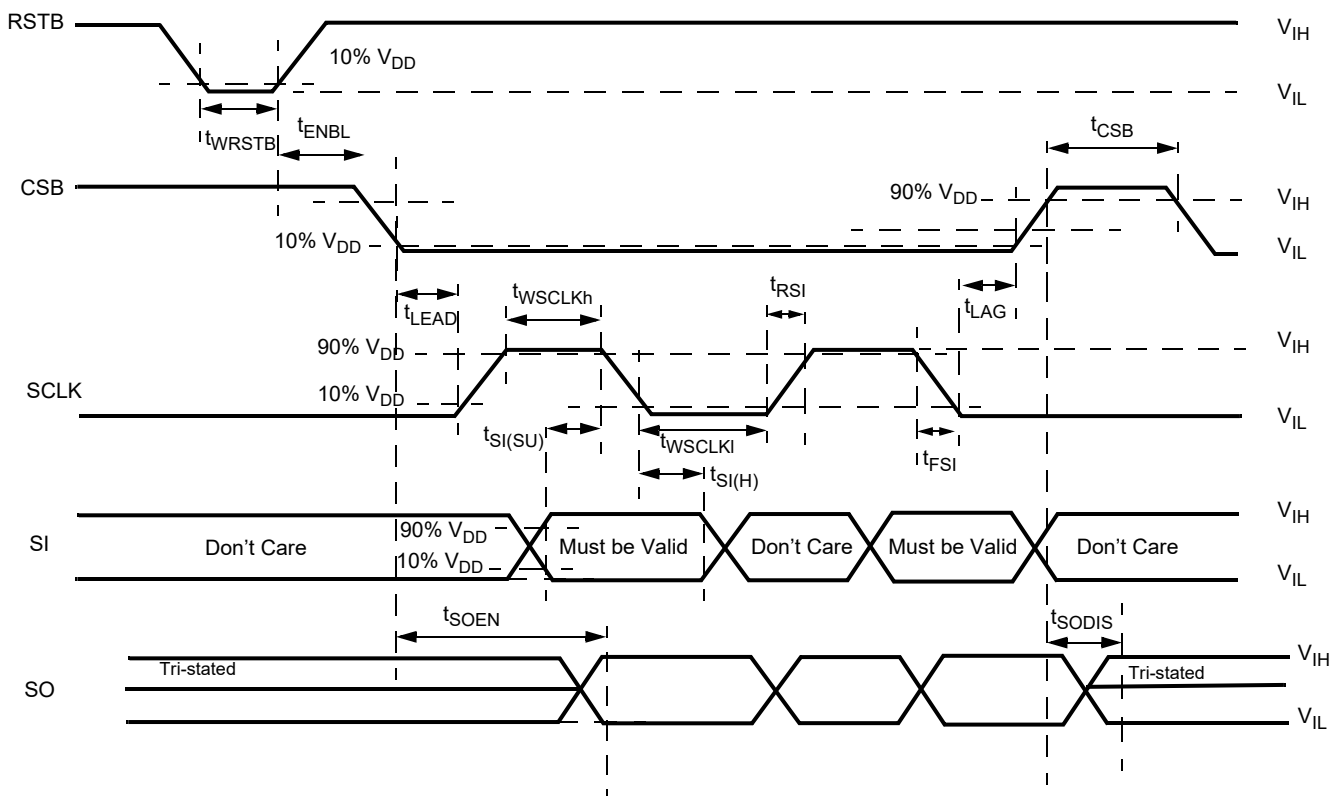
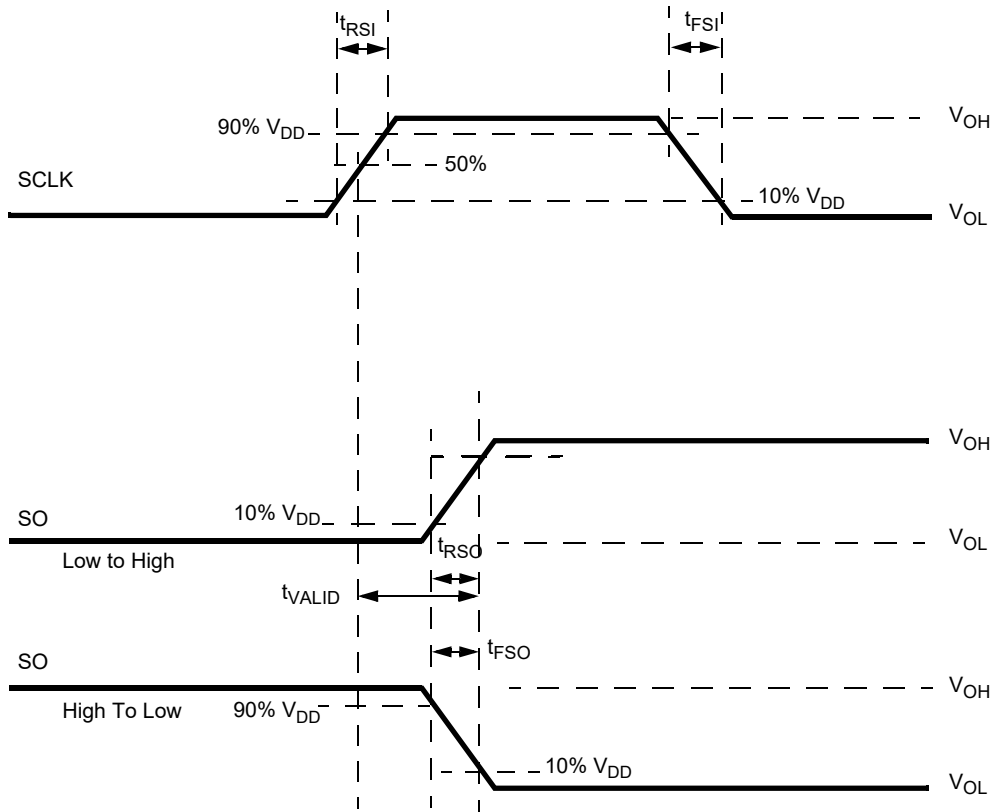

Figure 7. Timing requirements during SPI communication
Figure 8. Timing diagram for Serial Output (SO) data communication
Data communication over the SPI port is enabled when the CSB pin is in the logic [0] state. Data from the Input Shift registers are locked in the addressed SI registers on the rising edge of CSB. The device transfers the contents of one of the eight internal registers to the SO register on the falling edge of CSB. The SO output driver is enabled when CSB is logic [0]. CSB should transition from a logic [1] to a logic [0] state only when SCLK is at logic [0] (Figure 7 and Figure 8). CSB is internally pulled up to  $V_{DD}$  through  $I_{UP}$ .
Serial input (SI) data bits are shifted in at this pin. SI data is read on the falling edge of SCLK. 16-bit data packages are required on the SI pin (see Figure 7), starting with bit D15 (MSB) and ending with D0 (LSB). All the internal device registers are addressed and controlled by a 4-bit address (D9-D12) described in Table 14. Register addresses and function attribution are described in Table 15. The SI pin is internally connected to a pull-down current source,  $I_{DWN}$ .